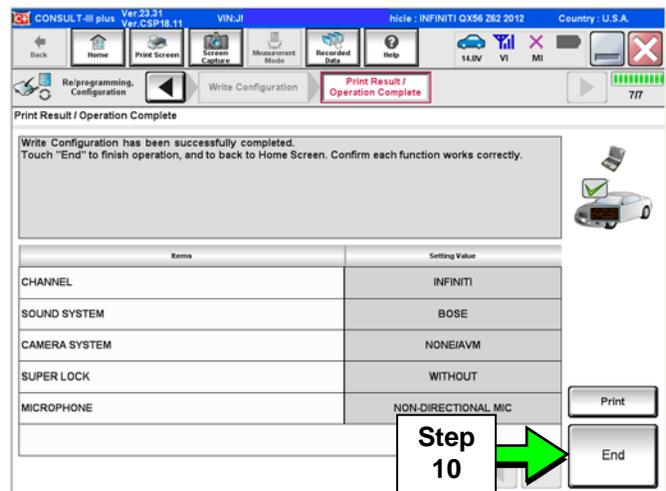

Figure 30
9. After selecting **OK**, the screen in Figure 30 appears.